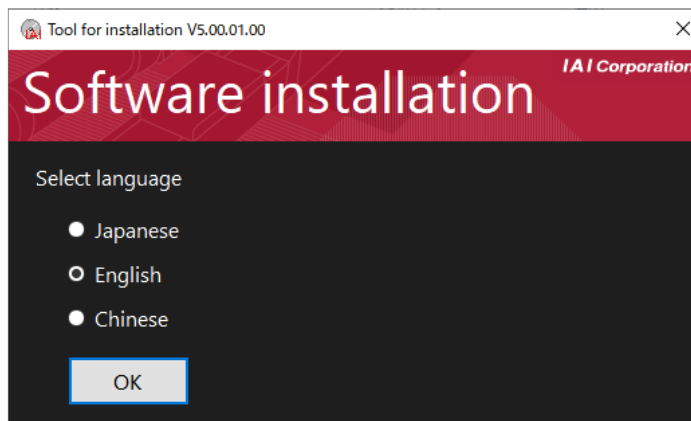

Fig. 1.1 Tool for Installation Screen
- 2) The tool for installation screen (Fig. 1.1) will be displayed.
- * What to do if the tool for installation screen (Fig. 1.1) is not displayed
If the data installation selection screen (Fig. 1.1) is not displayed even when the DVD-ROM is inserted, display the screen according to the process below.
- b. Double-click  IAI_Install.exe to display the tool for installation screen (Fig. 1.1).
(2) Installation of the computer-dedicated teaching software for XSEL (RSEL)